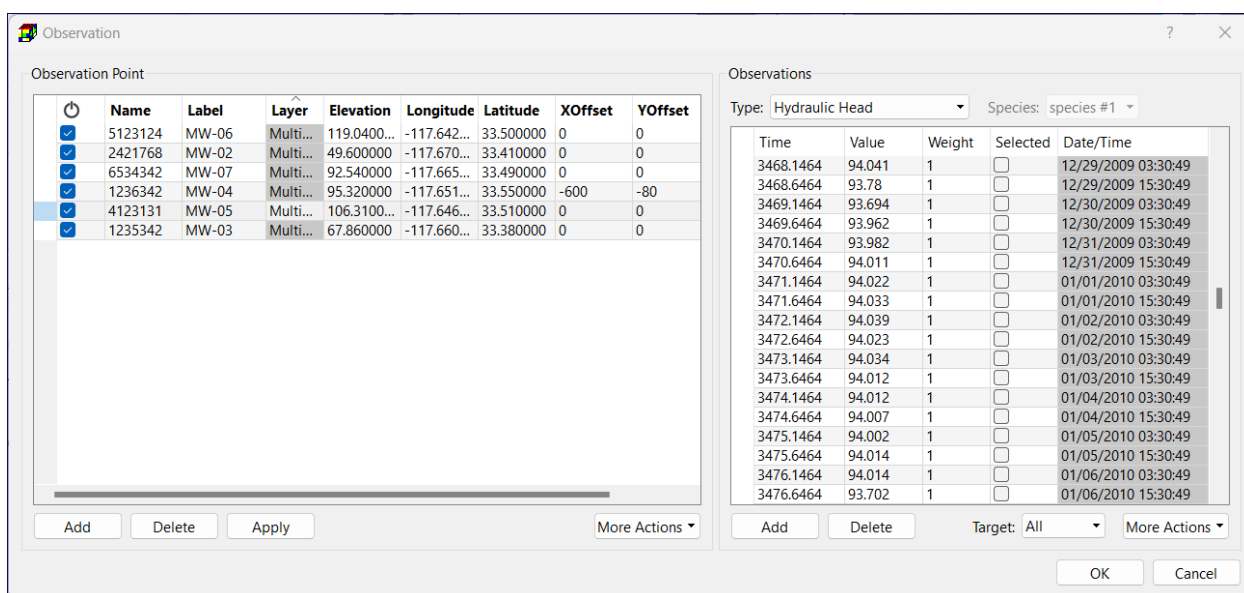

Figure 38. The Observation dialog box
2. **Remove an observation point (shift+click or shift+drag):** Shift+click on the observation point in the Map Viewer or shift+drag a window encompassing the observation points that should be deleted, then release the mouse button. Alternatively, right click on the observation point in the Map Viewer to open the Observation dialog box (Figure 38), select the observation point in the table, and then click Delete in the dialog box to delete the selected points.
4. **Edit observation data:** The Observation dialog box (Figure 38) can be used to enter and/or edit observation data. This dialog box can be opened by either right-clicking on an observation point in the Map Viewer or by right-clicking on the Observation Points group on the TOC, and then selecting Edit Data. The features of the dialog box are as follows.